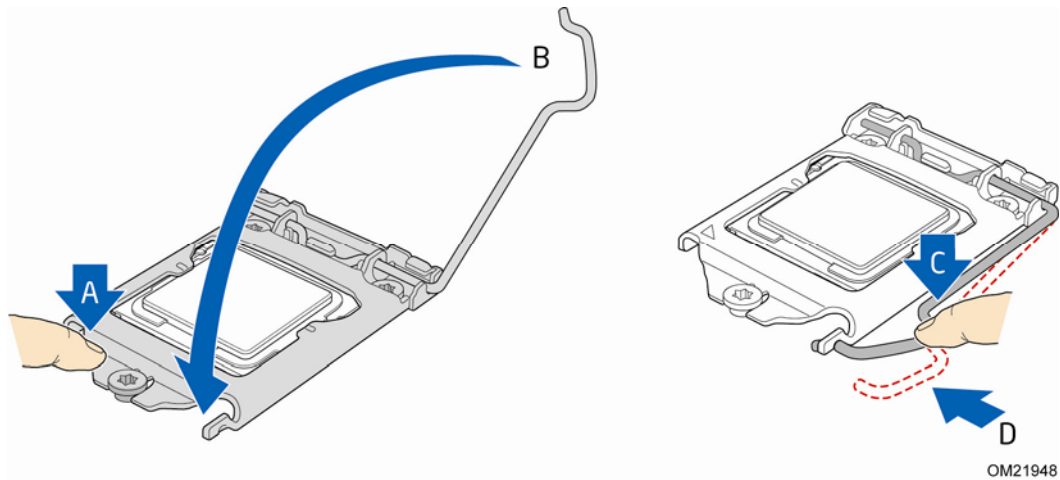

Figure 13. Secure the Load Plate in Place
8. Lower the socket lever (Figure 13, B) while making sure that the front edge of the load plate slides under the shoulder screw cap as the lever is lowered (Figure 13, A). Latch the socket lever under the load plate tab (Figure 13, C, D).
Connect the processor fan heat sink power cable to the 4-pin processor fan header (see Figure 13). A fan with a 4-pin connector as shown in Figure 13 is recommended.